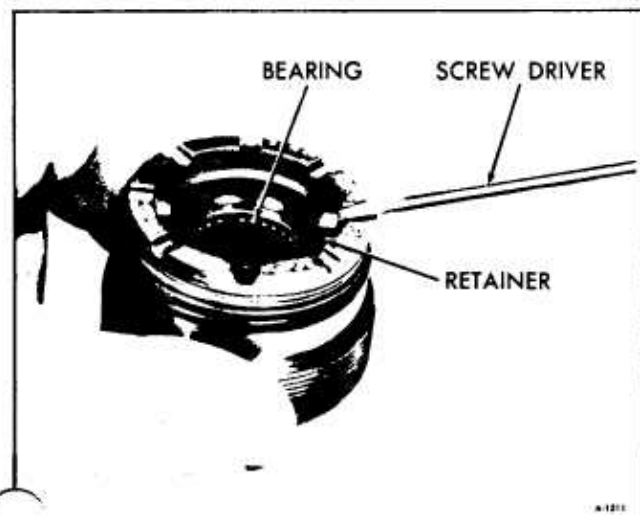

Figure 29-Removing Retainer
2. If the thrust bearing **ONLY** is to be removed, pry the thrust bearing retainer at the two raised areas with a small screw driver (figure 29). Remove the spacer, thrust bearing washer, thrust bearing and washer.